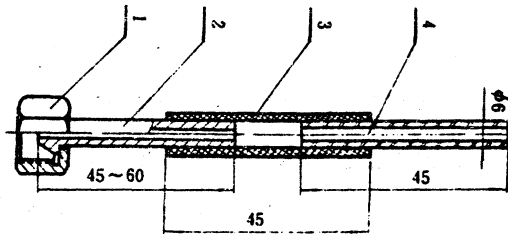

Fig. 24 Overflow tube
a. Mount an overflow tube on the first cylinder delivery valve holder of the injection pump (Fig. 24). The overflow tube consists of a high pressure fuel pipe of 45—60 mm in length, a plastic (or rubber) hose and a glass tube of 1.5—2 mm in inner diameter.